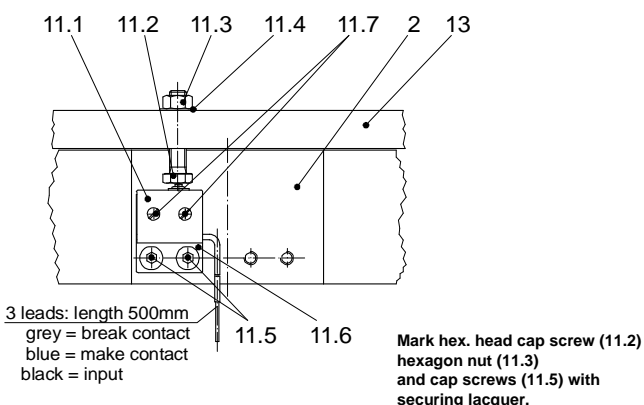

Fig. 6 (Sizes 60 – 2000)
## Release monitoring (11) Fig. 6
## Assembly (at the factory Fig. 6)
- Screw adapter plate (11.6) with two cap screws (11.5) (M4x8 – DIN912) to the brake body (2) on the side of the release monitoring (Fig. 6) (lock it with LOCTITE 243).
- Screw brake at the machine wall (12) or assembly device with nominal tightening torque.
## Adjustment and inspection of the micro switch ((pos. 11.1) Fig. 6 at the factory):
- Cycle 2x; if necessary re-adjust it according to item 5.